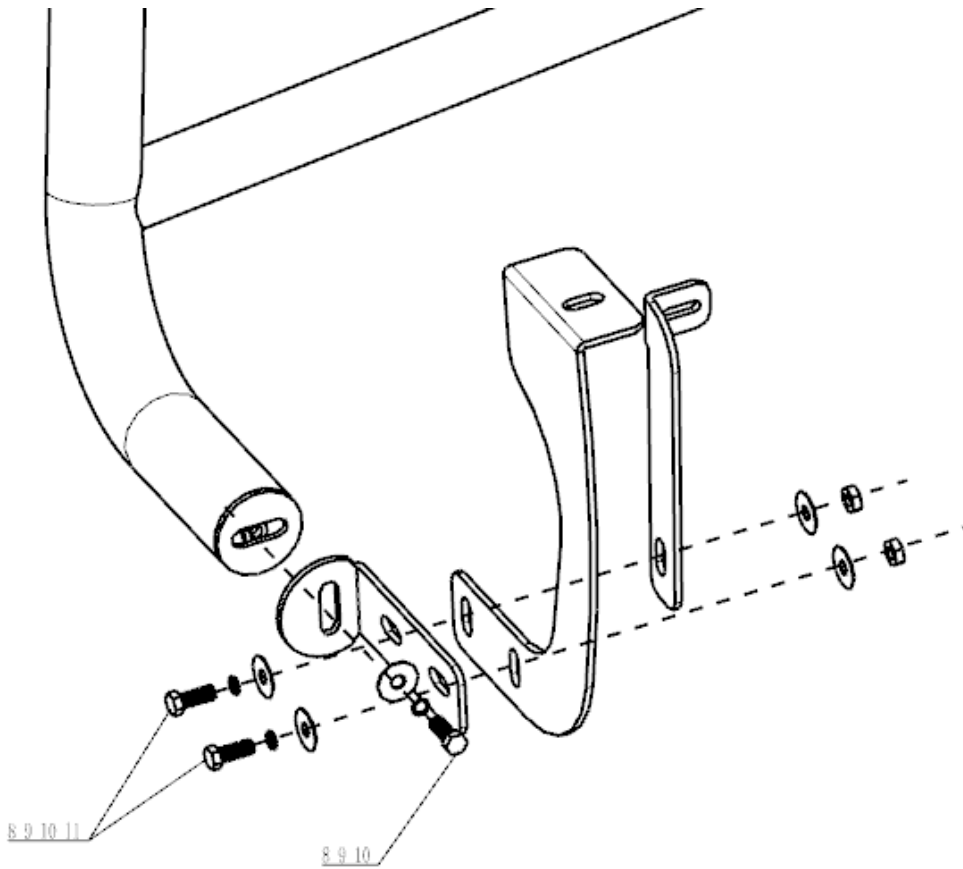

Figure 2. Front mounting - Lift
1. Remove existing body mount bolts as shown (**see Fig. 1 and Fig 2**).
2. Install front and rear passenger brackets as shown using M12 x 30mm Screw (see Fig 1 and Fig 2).